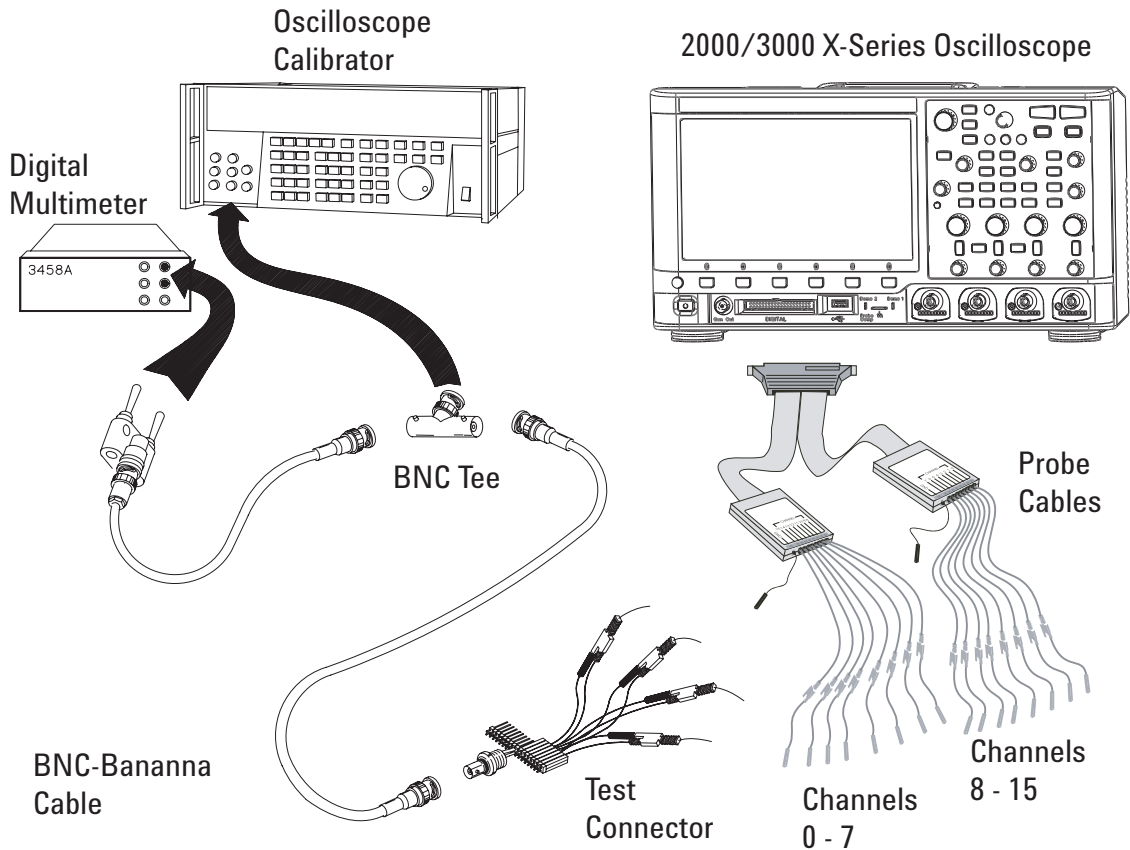

Figure 2 Setting Up Equipment for Digital Channel Threshold Accuracy Test
- 3 Use the 8-by-2 test connector and the BNC cable assembly to connect digital channels D0-D7 to one side of the BNC Tee. Then connect the D0-D7 ground lead to the ground side of the 8-by-2 connector. See Figure 2.
- 5 Connect the BNC Tee to the Channel 1 output of the calibrator as shown in **Figure 2**.